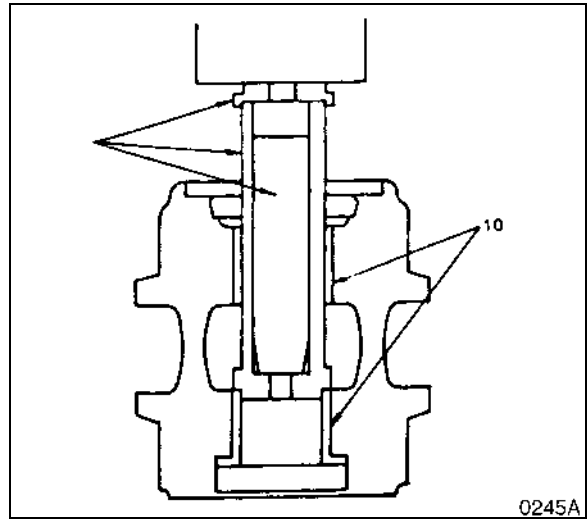

Figure 45
5. Separate the bushing (10, Figure 45) from the roller with a press and special tool (ST-1919).